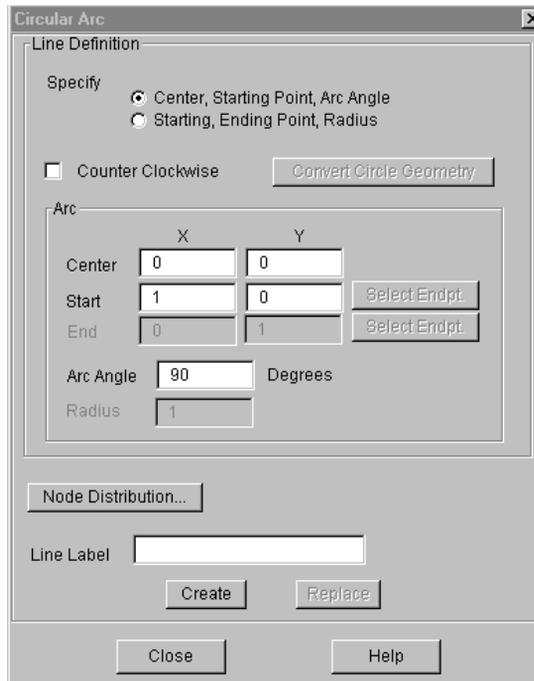

Figure 1-2. The Circular Arc dialog.
1. Click on the Boundary menu, then select the Create Circular Arc option. This will call up the Circular Arc dialog, shown in Figure 1-2. The first option in the Line Definition area of the dialog is Specify. Here, there are options: Center, Starting Point, Arc Angle; and Starting, Ending Point, Radius. Click on the latter.